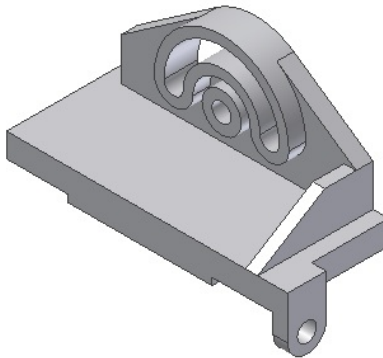

Figure 6-127 *Model after creating the join feature*
- e. Create the rib and the join feature on the right of the model, refer to Figure 6-127.
3. Extrude the sketch to a distance of 12 mm to create the feature. Make sure that you select the profile by using a point inside the outer loop but outside the circle. The model after creating the join feature is shown in Figure 6-127.